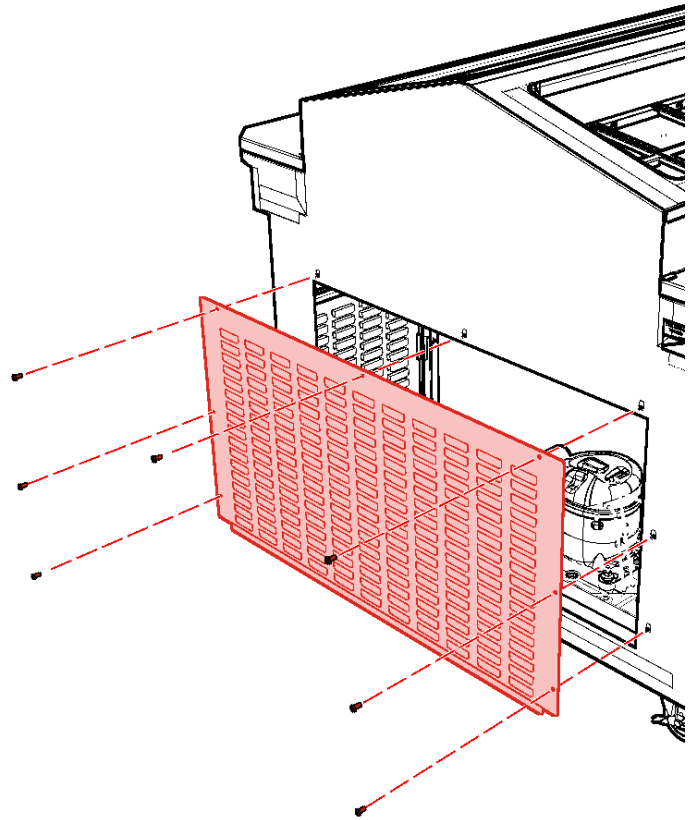

Fig. 32
1. Remove seven (7) M5 × 12 screws fastening side condenser access cover to unit. Drop cover down and away from unit to remove (Fig. 32).